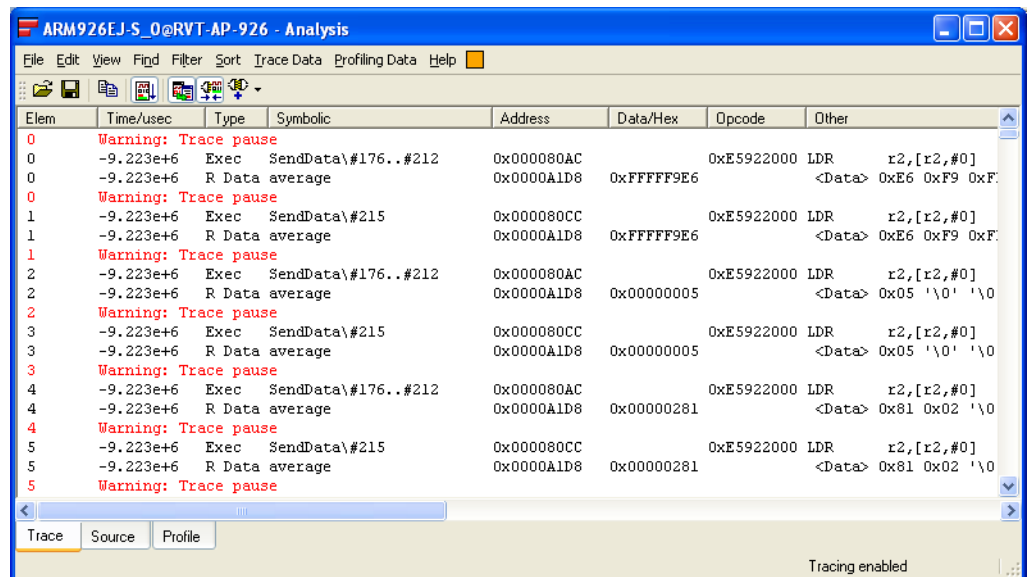

Figure 10-60 Captured trace of data reads from average
- Select **Trace Data** → **Instructions** from the Analysis window menu to show the traced instructions. Figure 10-60 shows an example: